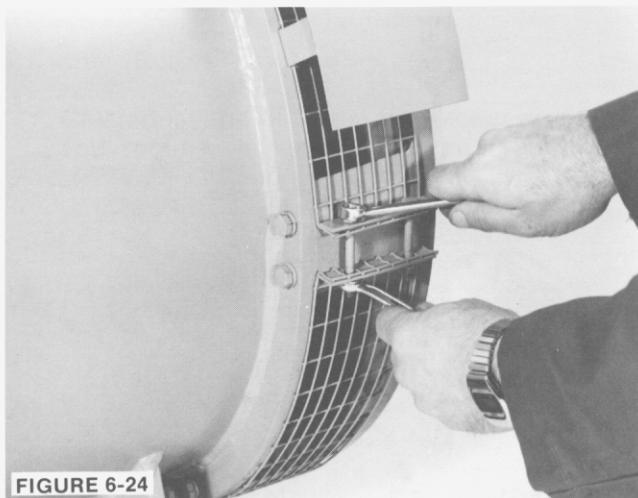

FIGURE 6-24
3. If the screen assembly is still mounted, remove the bolts securing the screen assembly to the drive end bracket or the SAE adapter and remove the screen assembly. (Figure 6-24.) (NOTE: Do not remove the drip cover from the screen assembly if so equipped.)